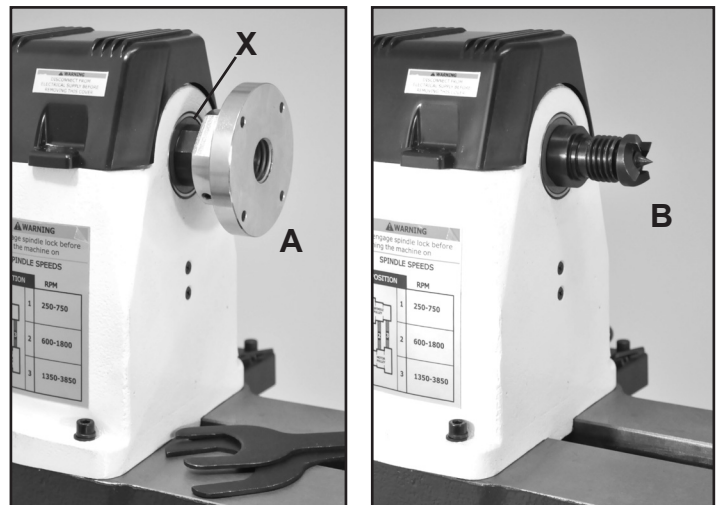

FIG. 2
3. **HEADSTOCK FACEPLATE:** Faceplates (#58, FIG. 2, A) are used for turning bowls and plates. There are a number of screw holes on the plate for mounting the workpiece for turning. Thread the faceplate onto the spindle in a clockwise direction, and tighten it in place with the set screws that are located on the back hub of the faceplate. To remove the faceplate, loosen the set screws. Use one wrench on the flat portion of the spindle (X) and another wrench on flats of the faceplate's rear hub, then loosen the faceplate from the spindle. Rotate the faceplate counter-clockwise to fully remove it from the spindle.
4. **HEADSTOCK SPUR CENTER:** The Spur Center (#59, FIG. 2, B) is used for turning between centers. It fits into the spindle. Both spindle and the spur center have matching MT-2 tapers. The spur center can be removed from the spindle with the Knockout Bar (#85), inserted through the outboard left end of the spindle. **NOTE:** Be careful and hold the spur center during this process so it does not fly out onto the floor. A short Knockout Bar (#86) is supplied to remove the Spur Center's Center Point, if it needs replacing.